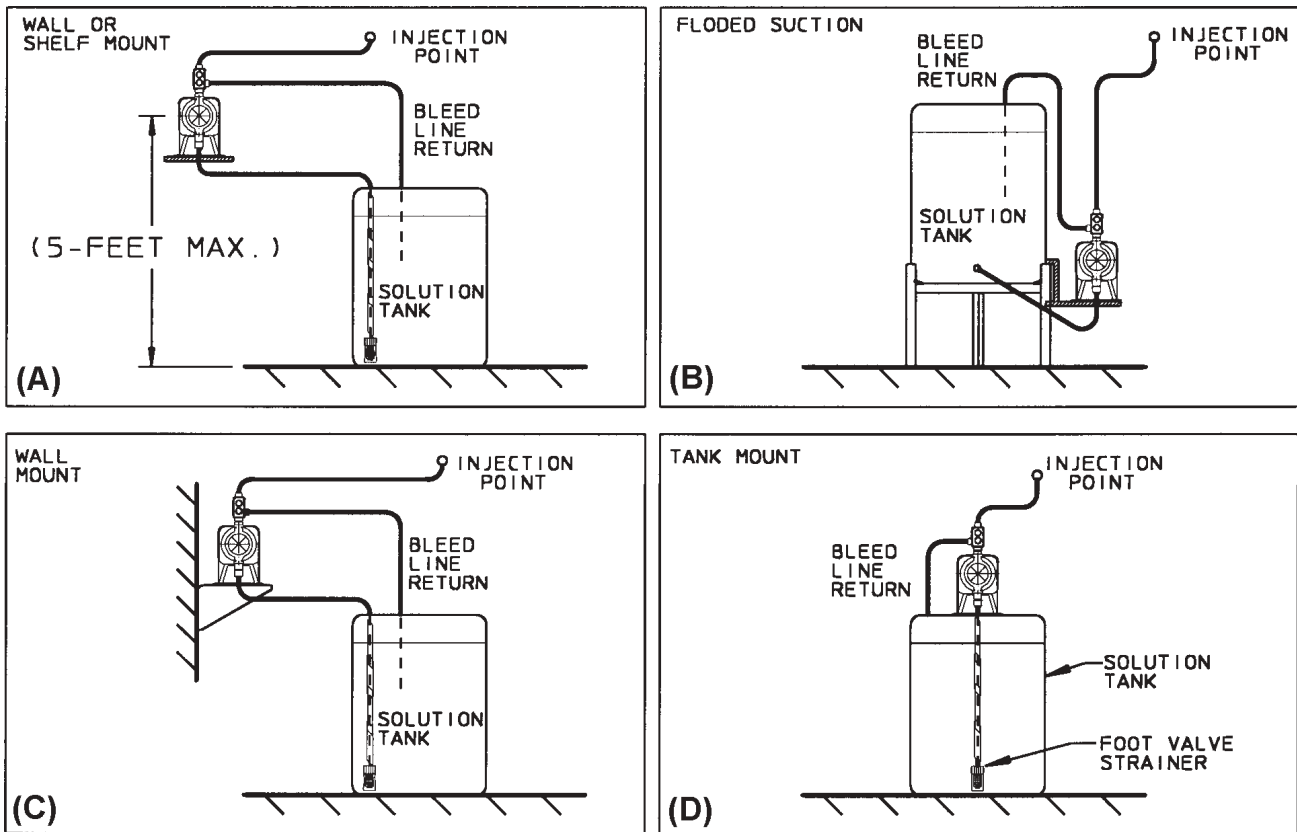
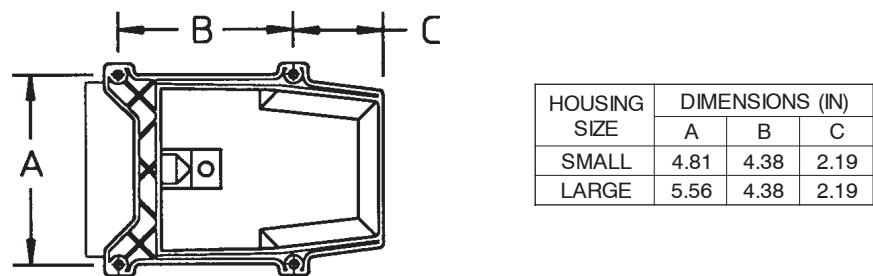

Figure 2.1
Figure 2.2
Typical mounting arrangements are shown in Figures 2.1(A), (B), (C), and (D).
- For wall or shelf mounting, refer to Figure 2.1(A). Connect suction tubing to suction valve of chemical pump. Suction valve is the lower valve. Tubing should be long enough so that the foot valve/strainer assembly hangs about two to three inches above the bottom of chemical tank. To keep the chemical from being contaminated, the tank should have a cover.
- Flooded suction mounting (installing the pump at the base of the chemical storage tank, as shown in Figure 2.1(B)) is the most trouble-free type of installation and is recommended for very low output requirements. Since the suction tubing is filled with chemical, priming is accomplished quickly and the chance of losing prime is reduced.
To mount the pump, drill four holes of 1/4-inch diameter in the shelf as shown in the dimension drawing (Figure 2.2). Attach pump securely using four #10 bolts and nuts.
- The pump can be mounted to a wall, as shown in Figure 2.1(C). A wall-mount bracket kit is available that includes all necessary hardware to mount the pump to the wall. Mounting the pump other than as shown in Figure 2.1(C) defeats the purpose of the housing drain. Mounting dimensions for the pump are provided in Figure 2.2 for reference.
- The pump can be mounted on top of a solution tank as shown in Figure 2.1(D). Install the chemical pump on the cover. Insert suction tubing through the center hole and cut tubing so the foot valve/strainer hangs about two or three inches above the bottom of the tank. Mount the chemical pump rigidly by drilling four 1/4-inch holes and using our #10 screws and nuts.
- To prevent clogging or check valve malfunction, always install a strainer assembly to the end of the suction tubing (see Figure 2.1(D)).